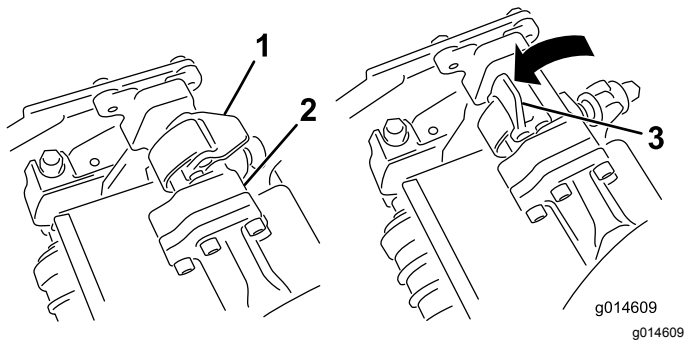
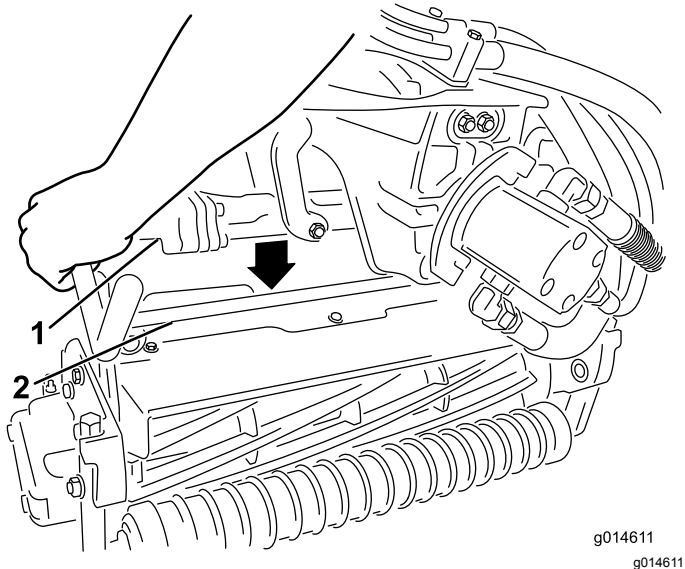

Figure 29
Figure 30
3. With the latches on the suspension-arm bar pointing up (i.e., open) (Figure 29), push the suspension arm down so that the bar fits over the bar across the top of the cutting unit (Figure 30).
4. Close the latches down and around the cutting-unit bar and lock them in place (Figure 29).
4. Open the latches on the suspension-arm bar of the cutting unit you are removing (Figure 29).